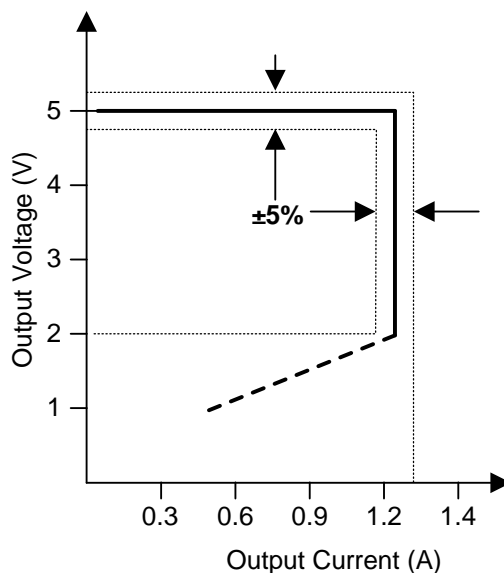

Figure 24. Target Output V-I Characteristic
UCC28910 and UCC28911 are HV switchers dedicated to an off-line power supply in an isolated flyback configuration. HV switcher means that each device integrates the power switch, a 700-V power FET, with the control logic. The two devices have the same control logic and they are different only for the Power FET $R_{DS(on)}$ and for the operating current levels. The control logic controls both the output voltage and the output current without the need of an optical coupler. This control method is known as Primary-Side Regulation (PSR) and it operates by analyzing the voltage waveform on the auxiliary winding of the transformer. This allows significant cost saving with respect to traditional control scheme that uses an optical coupler for feedback from a secondary-side shunt regulator. The transformer auxiliary winding is also used to provide housekeeping supply power to the control logic. The device operates in Constant Voltage mode (CV) when it is controlling the output voltage. The device operates in Constant Current mode (CC) when the output current is controlled. The device operates in CV mode or in CC mode according to the load condition. (See Figure 24). A control algorithm that implements both modulation of the switching frequency and the amplitude modulation of the primary current peak, allows the power supply to operate efficiently over the entire load range. The high-voltage current source used for startup is kept off during normal operation thereby minimizing standby power consumption. The device also incorporates a smart power management to minimize its current consumption from the VDD pin. This power consumption is reduced when the converter is lightly loaded or unloaded allowing for a total input power of less than 30 mW when converter input voltage is 265 V_{AC} and unloaded. A number of protection features inside the device allow for improved overall system reliability.